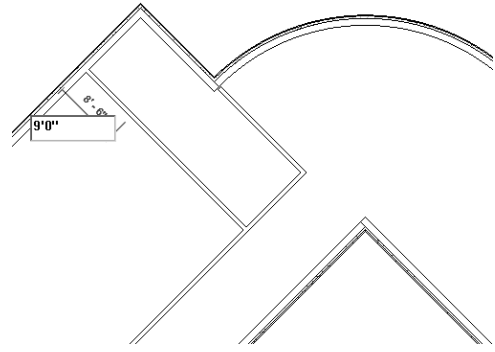

Figure 3-69 Specifying the distance of the fourth interior wall
8. Create the next wall by moving the cursor close to the last specified point. Next, move it downward towards the right. When the temporary dimension appears, enter the value **9'0"** and press ENTER to start the wall, as shown in Figure 3-69.